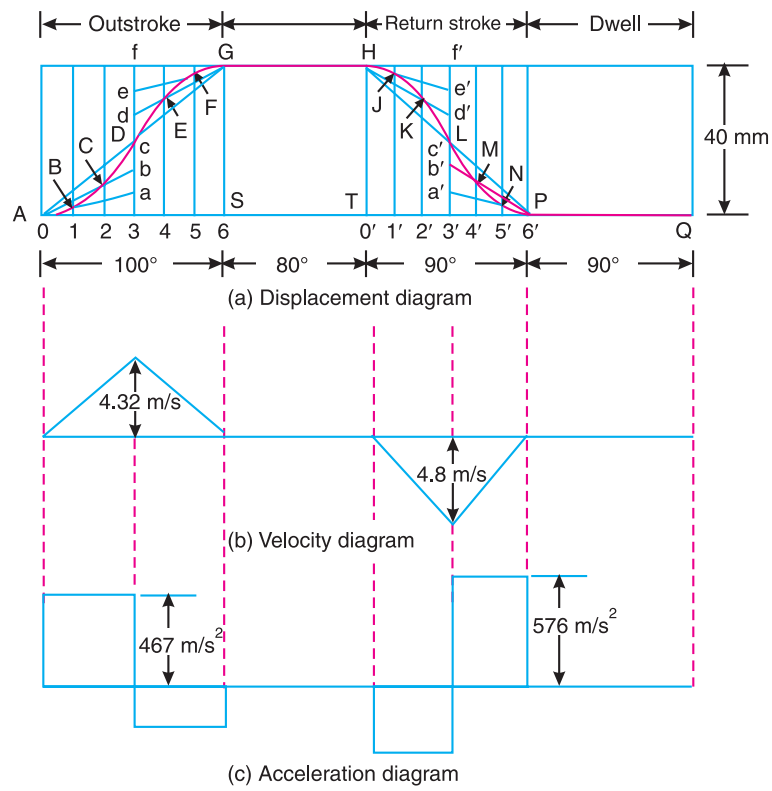

Fig. 20.24
First of all, the displacement diagram, as shown in Fig. 20.24 (a), is drawn as discussed in the following steps :
4. Divide the vertical lines 3- f and 3'- f' into six equal parts as shown by points $a, b, c \dots$ and $a', b', c' \dots$ in Fig. 20.24 (a).
7. Join the points B, C and D with a smooth curve. This is the required parabola for the half outstroke of the valve. Similarly the other curves may be drawn as shown in Fig. 20.24.
The velocity diagram is shown in Fig. 20.24 (b).
The acceleration diagram is shown in Fig. 20.24 (c).